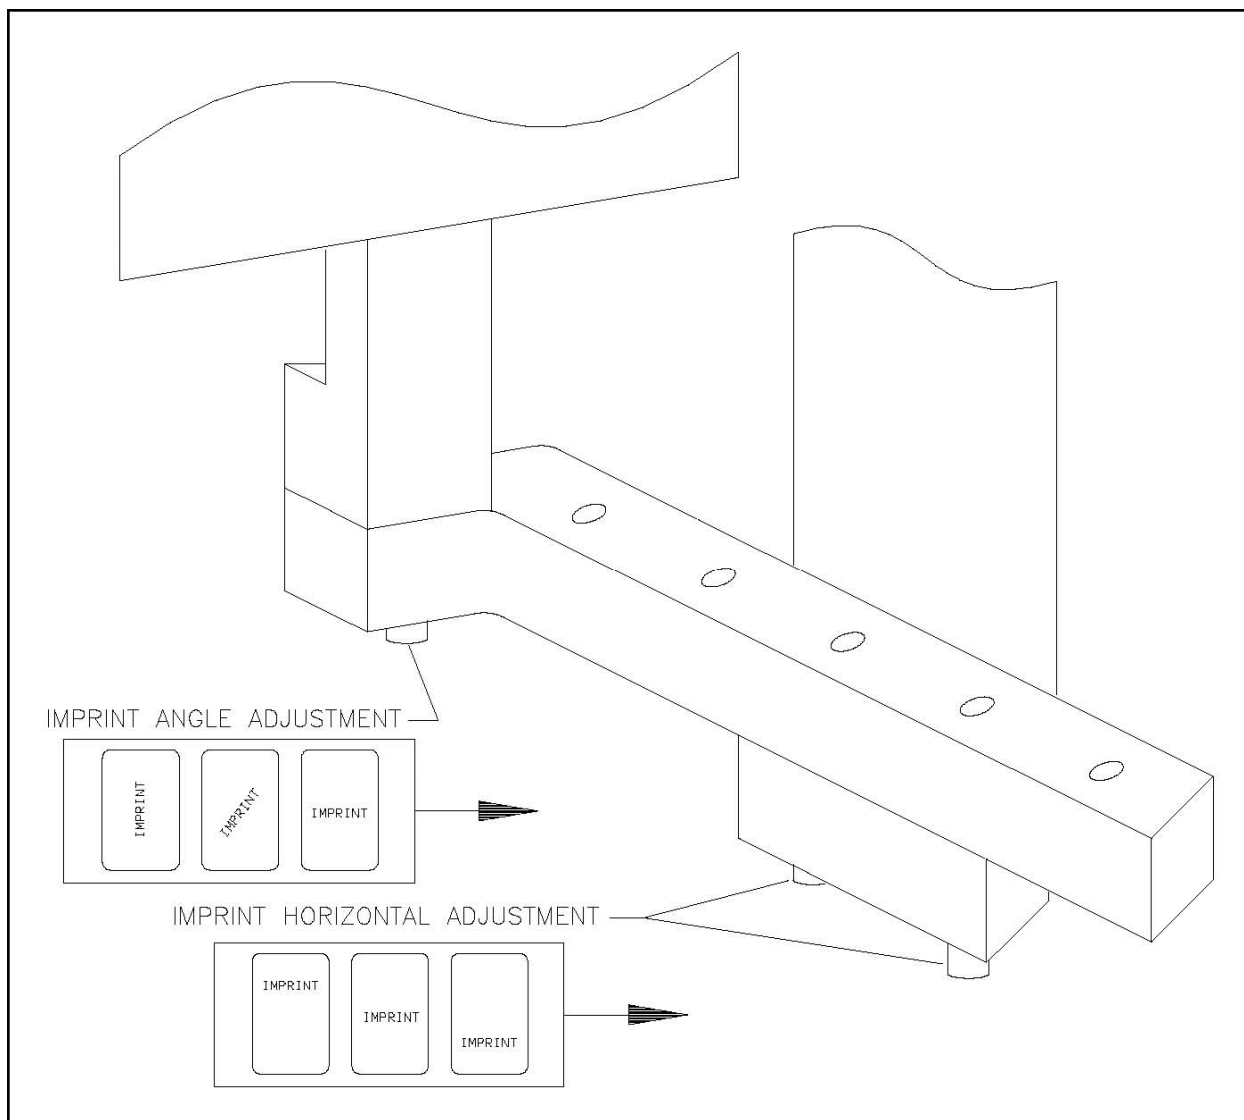

Figure 40 Imprinter Adjustment Brackets
3. Adjust the position of the imprint across the web by moving the position of the entire imprinter. See Figure 40.